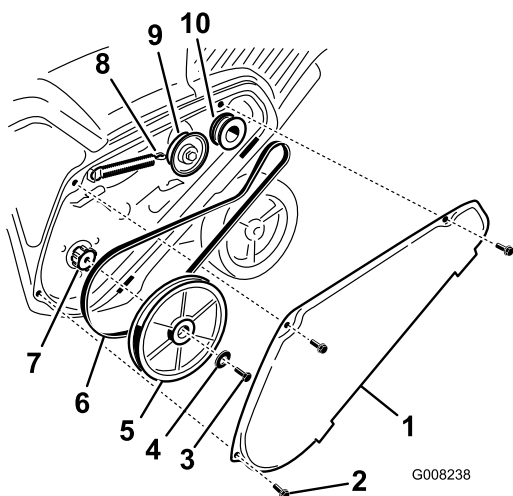

Figure 37
1. Remove the drive belt cover by removing the 3 bolts as shown in Figure 37.
- Unhook the brake spring from the idler arm to release the belt tension (Figure 37).
- Remove the screw and curved washer that holds the rotor pulley (Figure 37).
- Remove the rotor pulley and the drive belt (Figure 37).
**Note:** Route the new drive belt first around the engine pulley, then the idler pulley, and finally around the loose rotor pulley positioned just above the rotor shaft (Figure 37).
- Install the rotor pulley onto the rotor shaft (Figure 37).
- Install the curved washer and the rotor pulley bolt and tighten them securely (Figure 37).